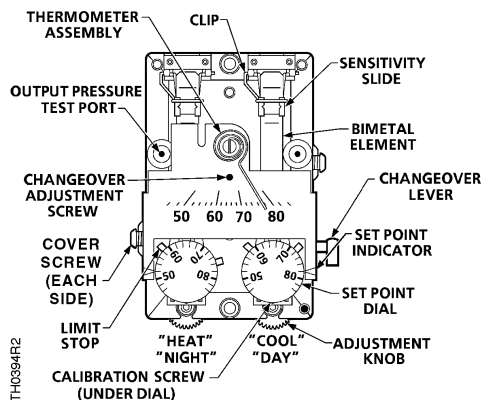

Figure 4. TH192 DN and DNV Thermostat Details.
2. Place a screwdriver in the center of the thermometer assembly (*Figure 4*). Carefully rotate the thermometer assembly until the pointer tip indicates the correct room temperature.
3. Place an Allen wrench in opening of the thermometer assembly (*Figure 4*) to adjust the changeover adjustment screw as follows:
To change the limit stop settings, use needle nose pliers to pull the limit stop (*Figure 4*) between the set point cam gear teeth. Do not pull the limit stop any more than necessary to clear the gear teeth. Rotate the limit stop to its new position. Changing the limit stop position one gear tooth changes the limit stop setting by 1-1/3°F (0.7°C).
The factory thermostat sensitivity setting is approximately 2.5 psi/°F (31 kPa/°C). To change the sensitivity, use a flat blade screwdriver to carefully move the sensitivity slide (*Figure 4*) to the desired position as follows:
4. If the control pressure does not read 7 to 8 psi (48 to 55 kPa), turn the calibration screw (*Figure 4*) using the calibration tool or 1/8" (3.2 mm) wrench until the pressure is 7 to 8 psi (48 to 55 kPa). The sensing element is now in calibration and the set point can be changed to the desired room temperature.
4. If the control pressure does not read 7 to 8 psi (48 to 55 kPa), turn the calibration screw (Figure 4) using the calibration tool or a 1/8" (3.2 mm) wrench until the pressure is 7 to 8 psi (48 to 55 kPa). The sensing element is now in calibration and the set point can be changed to the desired room temperature.